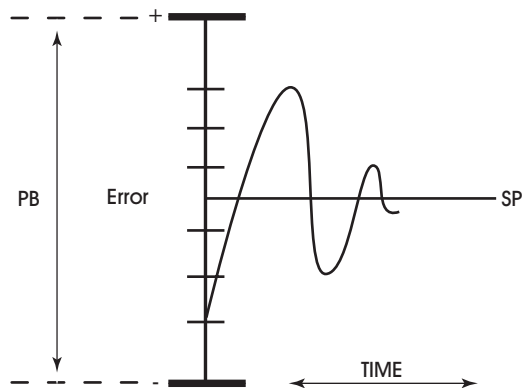

Figure 3-17: Proportional + Integral (PI) Control
The **(RP) Reset Period** property specifies the reset period (in seconds) over which the error history is accumulated. If **RP** = 10 seconds with a constant error of 2.0, then the error history would increase by 0.2 every second. In five seconds, the error history would be 1.0. At the end of ten seconds, the error history would be 2.0. Setting **RP** to 0 disables integral action making the loop proportional only. The longer **RP** is, the less effect it has on the control response. Figure 3-17 shows the response of a typical control loop when integral action is used in addition to proportional action (PI control). A value of 0 disables the reset period.
At the start-up of the loop or following a change in setpoint (see Figure 3-17), the error is fairly large. Proportional action causes the loop output to accelerate toward the setpoint. However by the time the loop response reaches the setpoint value, it has gained inertia from the preceding proportional action. This causes the loop to overshoot the setpoint. As the loop exceeds the setpoint moving toward its first peak, the error sum is accumulating. This slows down the acceleration, eventually causing the downturn in response.
As the error falls and then drops below the setpoint, the error sum will be reduced because now the error is in the opposite direction. The cycle continues in diminishing peaks until it finally converges at the setpoint as shown in Figure 3-17.